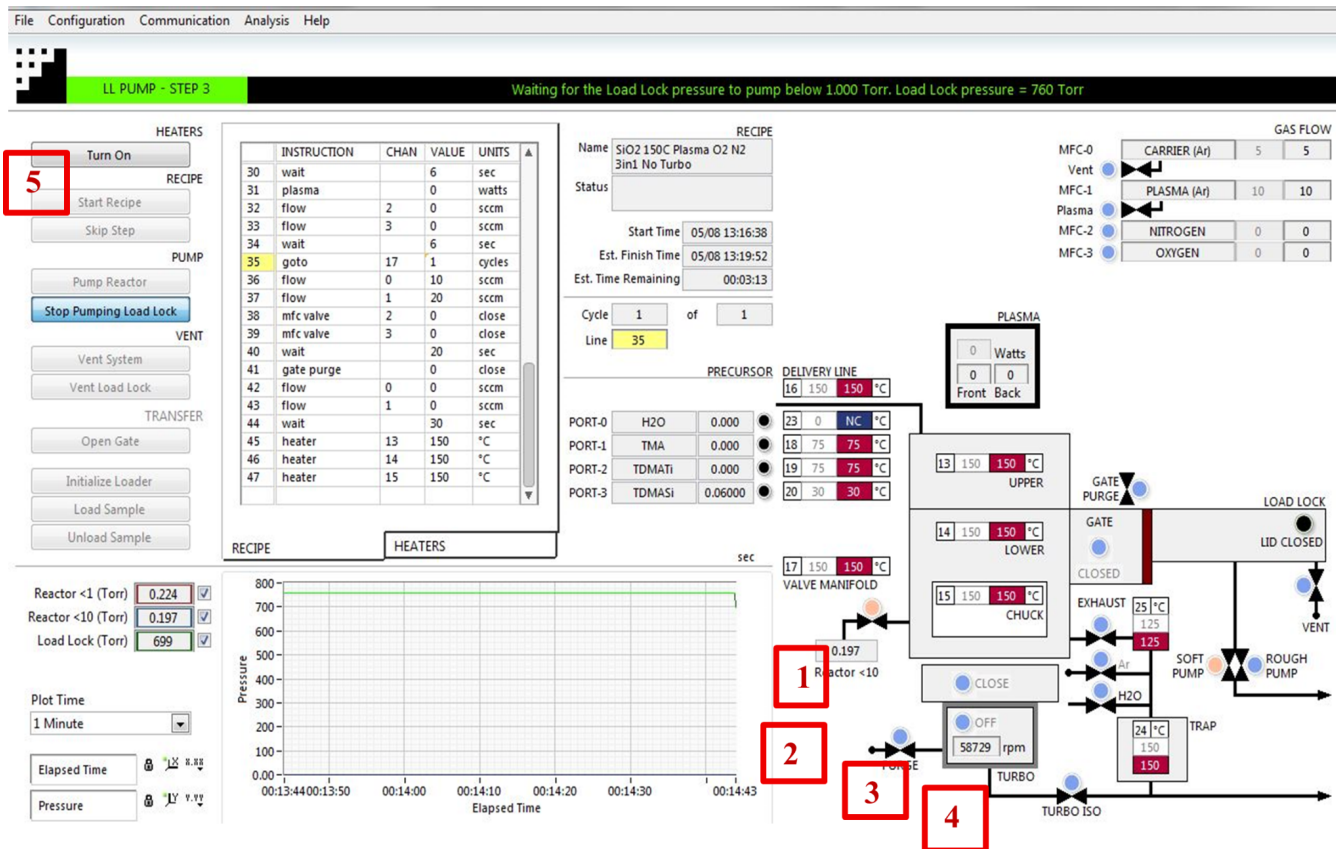

Figure 5 Isolating reactor chamber and Pumping LL
4. Isolate the reactor chamber by: **(follow figure 5)**